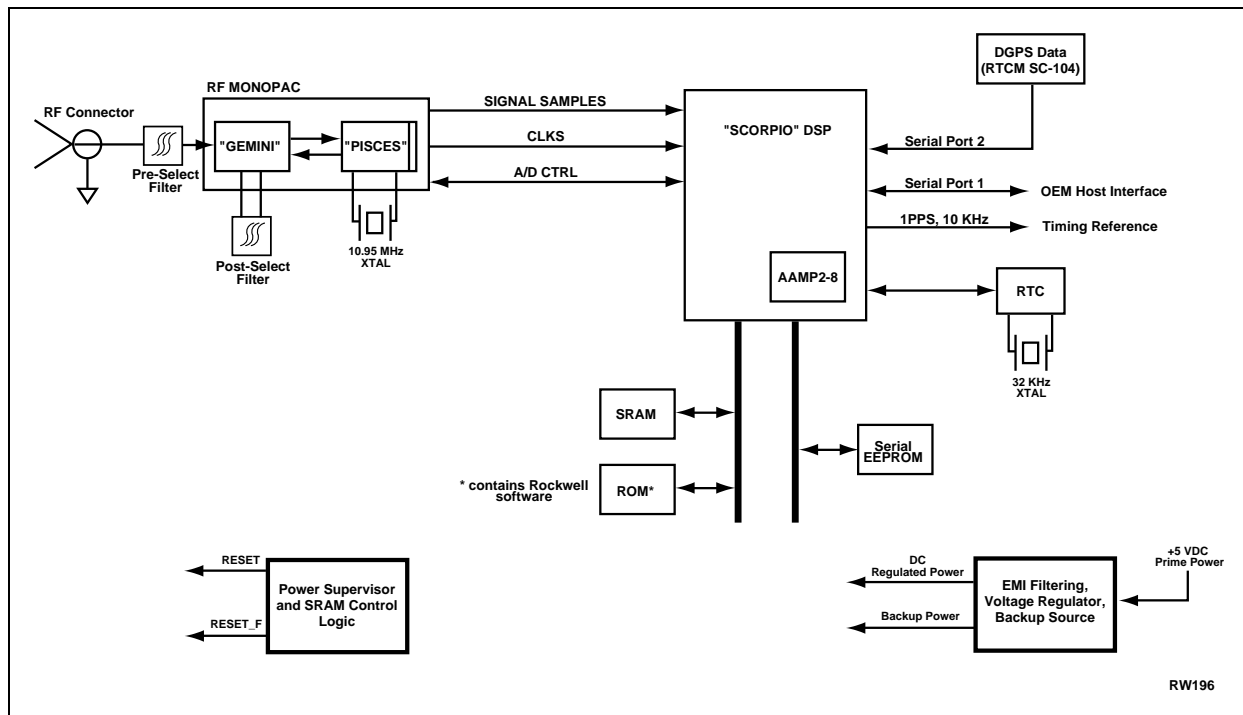

Figure 3. "Jupiter" Receiver Architecture
**Receiver Architecture.** The functional architecture of the "Jupiter" receiver is shown in Figure 3. The receiver design is based on the Rockwell Zodiac chip set: the "Gemini/Pisces" MonoPac™ and the "Scorpio" DSP, which contain the required GPS functionality. The "Gemini/Pisces" MonoPac™ contains all the RF downconversion and amplification circuitry, and presents the In-Phase (I) and Quadrature-Phase (Q) Intermediate